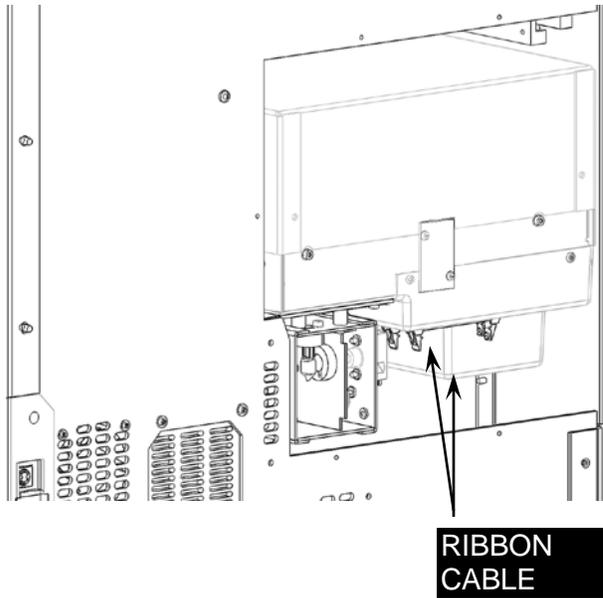

Figure 12-4: Reader Cable Connectors
3. Remove the cables (Figure 12-4) and gently withdraw the reader from the chassis.